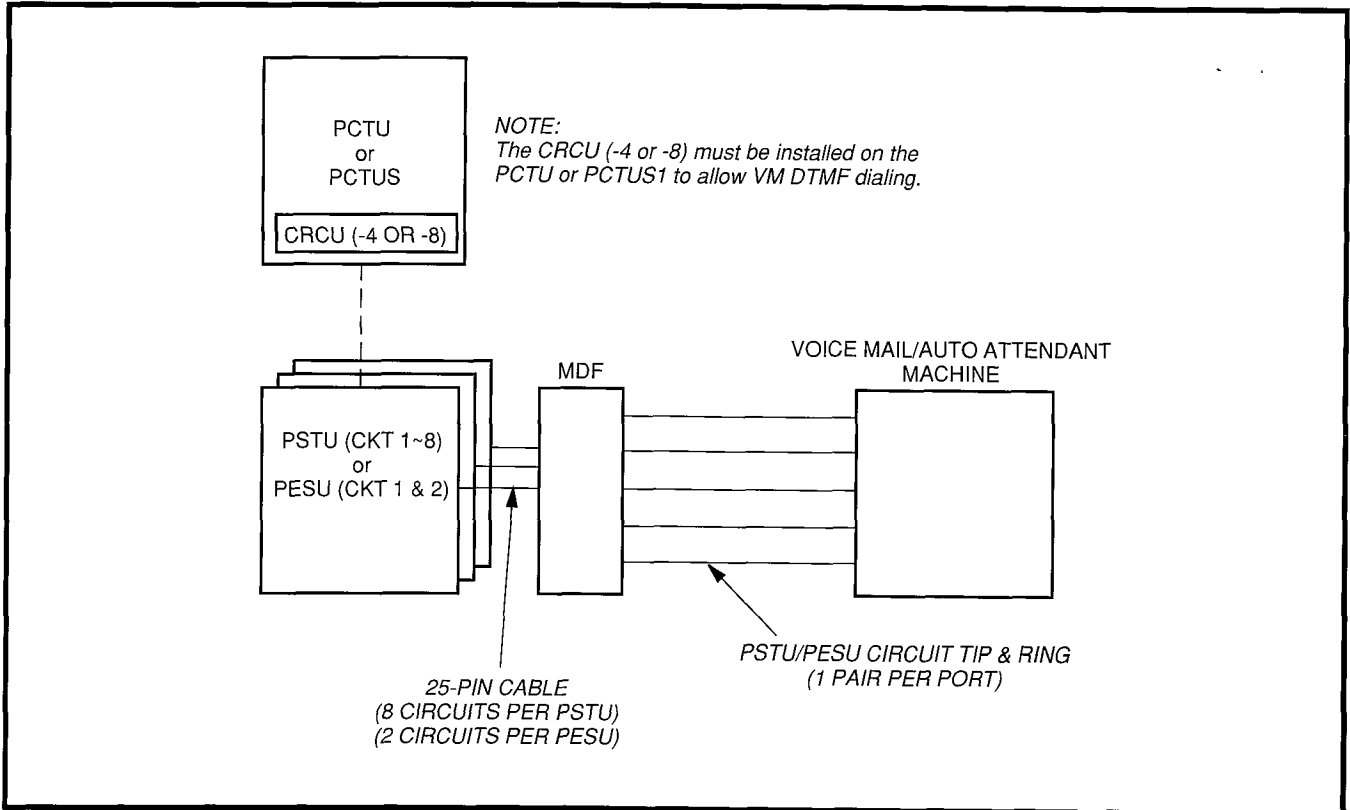

FIGURE 8-22—VOICE MAIL/AUTO ATTENDANT BLOCK DIAGRAM
10.02 Jumper **W3** on the PIOUS is used to set the alarm sensor to detect an open or closed condition from the facility alarm system. Solder the **W3** jumper wire as follows (refer to Figure 8-22):